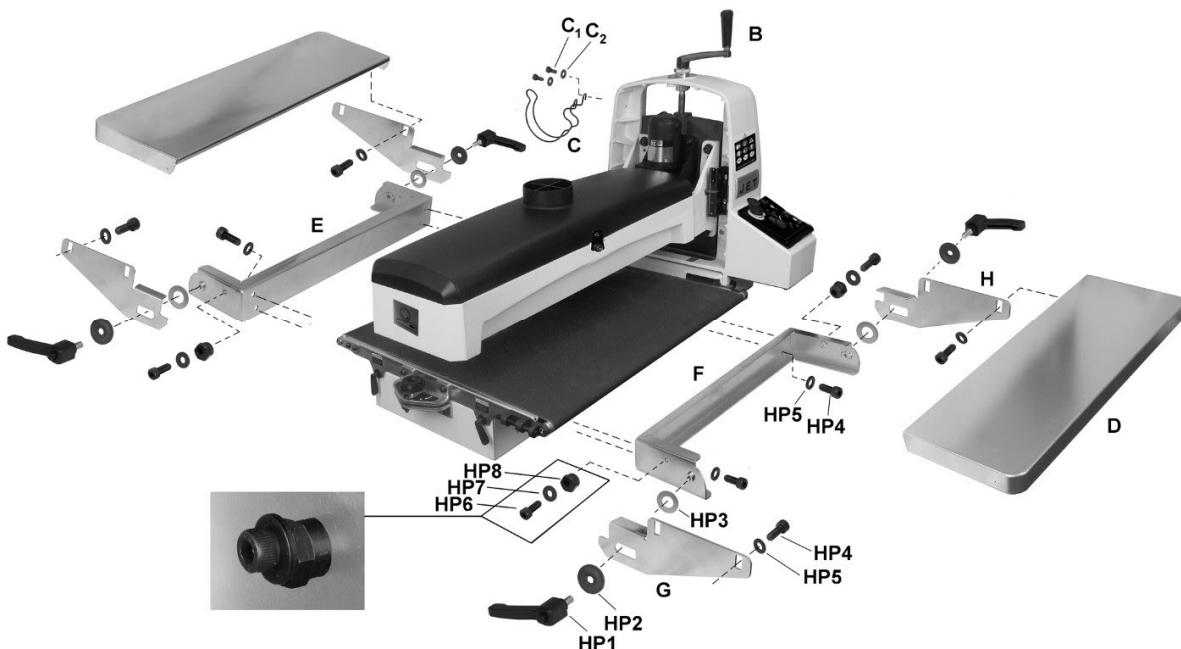

Figure 6-3: Assembly of Sander and OPTIONAL Infeed/Outfeed Tables
1. Install height adjustment handle (B, Fig 6-3) onto spindle and tighten set screw.
3. Install hose hanger (C) with screws and washers (C₁/C₂).
1. Install infeed and outfeed brackets (F, E, Figure 6-3) to the threaded holes in sander base with socket head screws and flat washers (HP4/5). Make sure left and right brackets are oriented as shown. The brackets should be flush against the base. NOTE: Long brackets mount to front (infeed); short brackets to rear (outfeed).